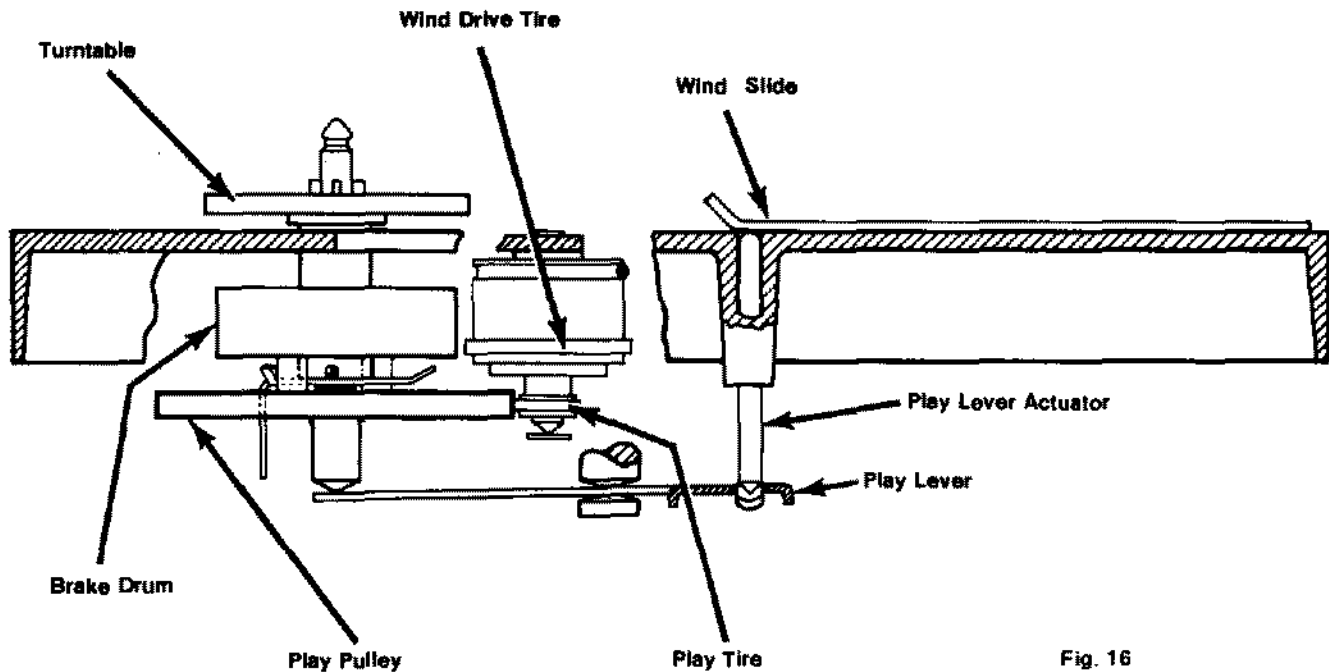

Fig. 16
4. Bend the tab on the play actuator lever in the direction necessary to make the play wind pulley come in contact at center position on the play wind tire. See the illustration in figure 16.